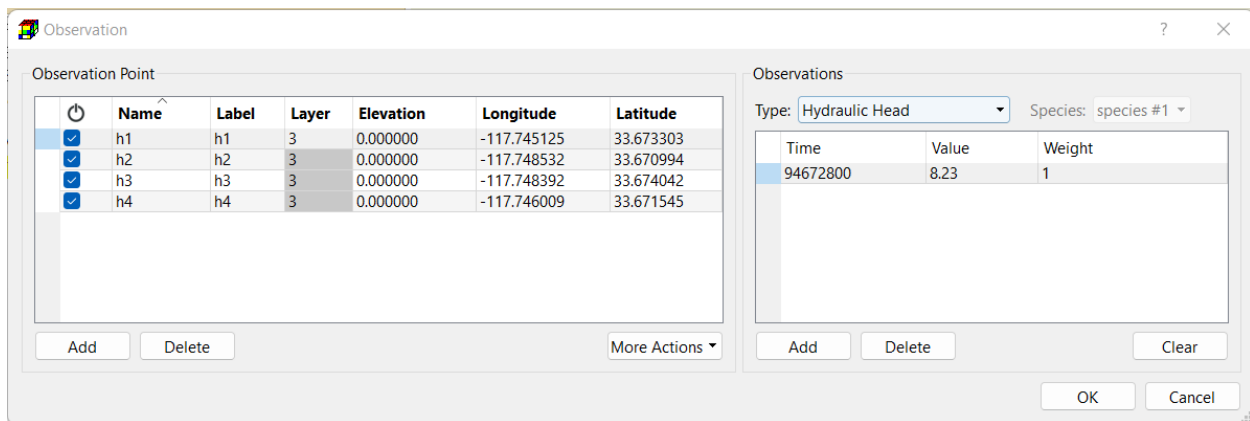

Figure 22. The Observation dialog box
2. Right-click on Input Data > Observation Points of the model item on the TOC and select Edit Data from the popup menu to display the Observation dialog box (Figure 22). When the dialog box is opened the first time, its tables are empty.
4. Enter the names and coordinates of the observation points as shown in Figure 22.
- Click the Add button to add a record to the Observation table and enter the values as shown in Figure 22. Time is set to 94672800 because for a steady-state model PEST is instructed to compare the results at the end of the simulation with the observed values.